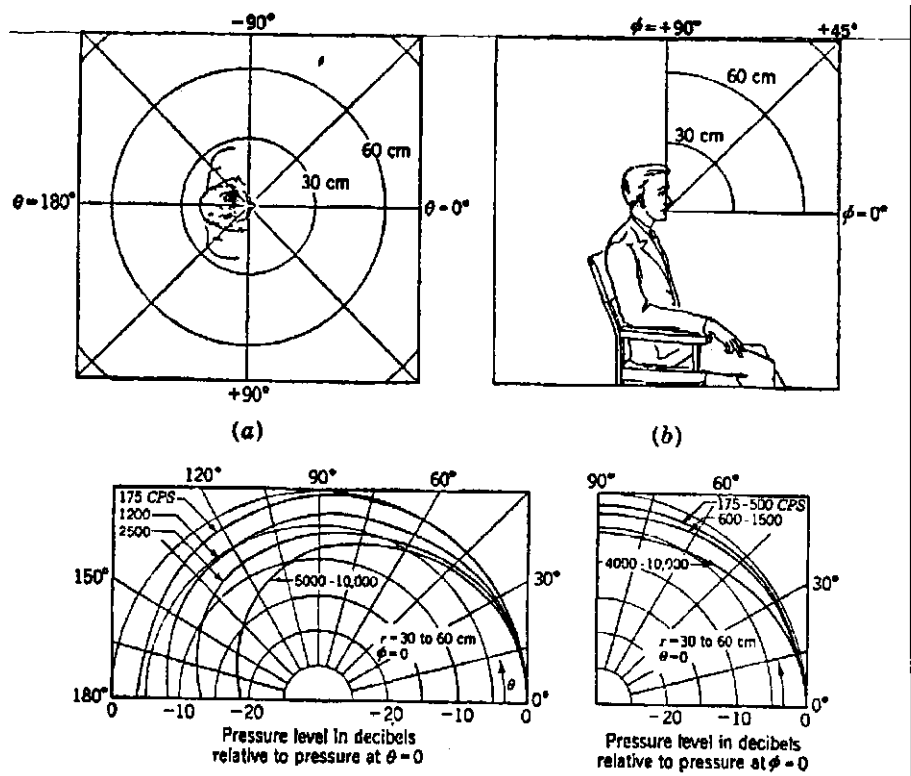

Fig. 5. Voice directivity patterns.
2. One source of voice directional patterns is the classic text Acoustics by Leo Beranek. Figure 5 (from that book's Fig. 11.12) shows directivity patterns for the human voice.